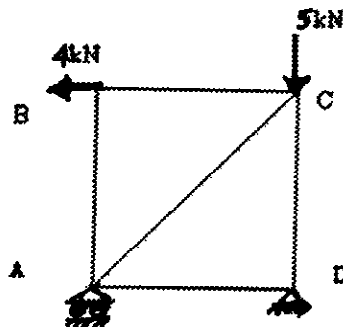

Fig. Q4
4. Determine the vertical displacement of C of the truss (Fig.Q4) using castigliano's theorem. Area of each member = 400 sq.mm. $E = 200\text{ GPa}$, $AD=BC=2\text{m}$, $AB=CD=1.5\text{m}$. [6]